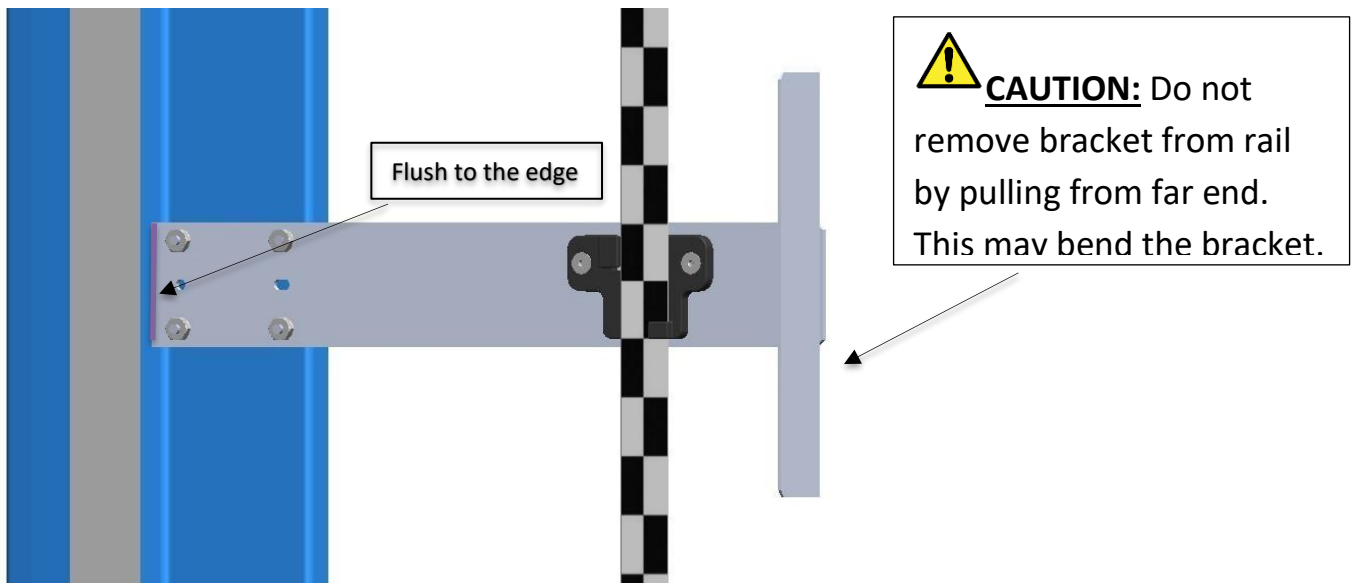

Figure 10: Tape Clip assembly Alignment
- Loosely assemble the Upper Tape Mounting Assembly in the order shown in figure 10.